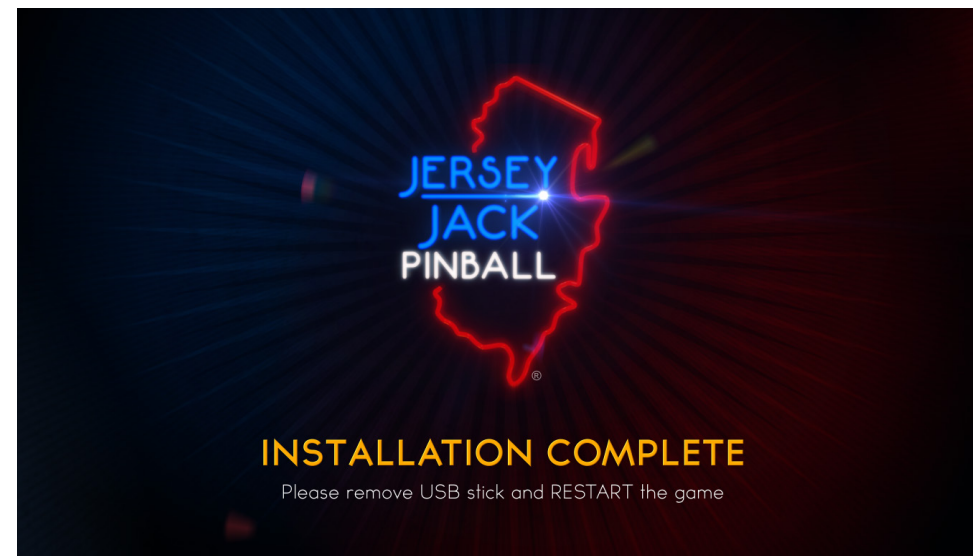

Figure E11. Update installation complete!
10) When the update is complete, the screen in figure E11 will be displayed on the game's LCD monitor. Power the game down, remove the update USB stick and power it on again. Your game will boot up running the new version of software (which can be verified by entering the Dialed In menu system - see Section B). Store your 8 GB USB stick in a safe place; it can be used to perform another full software update in the future (to this same software version or a newer one).